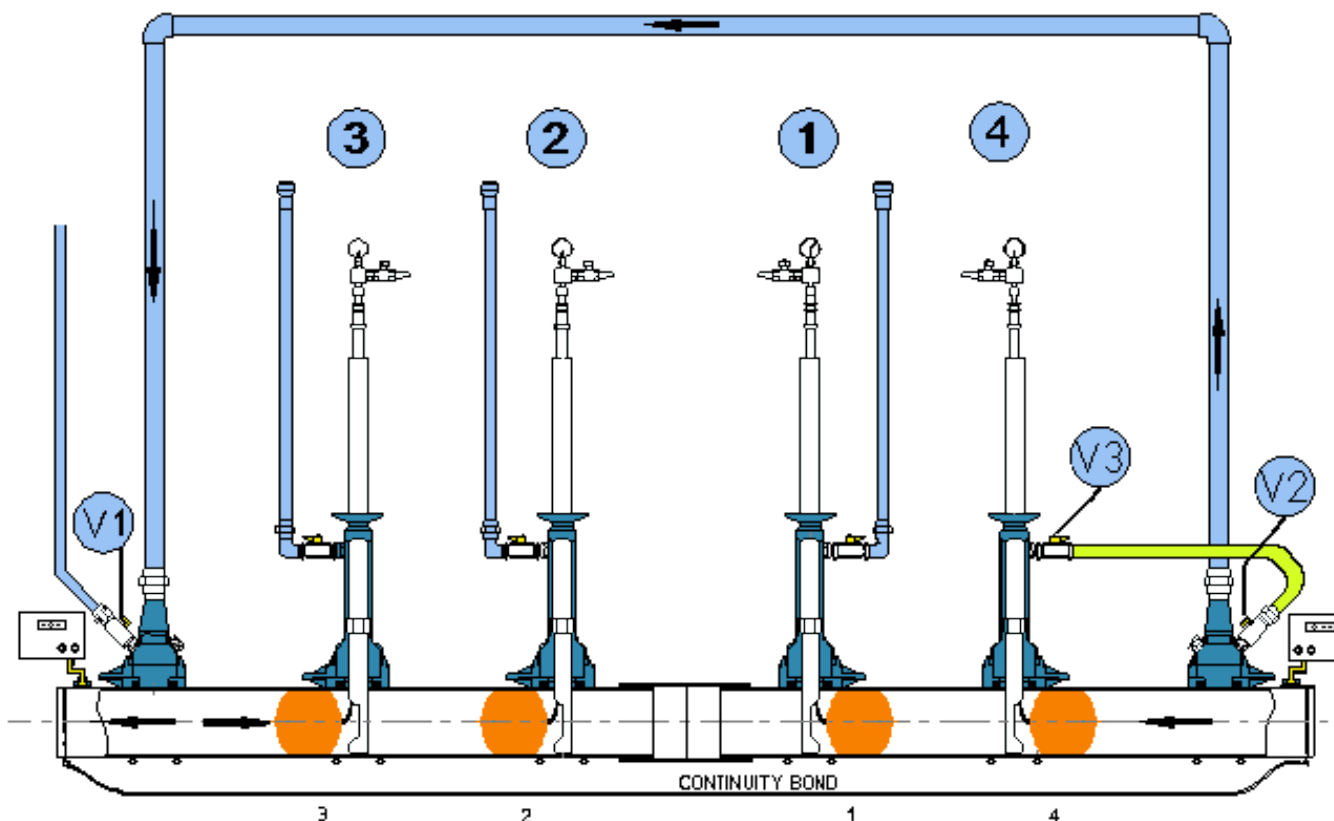

Figure 67- Recommission Main (Using a Purging Rider)
4. A suitably sized rider, as stated in the written procedure, should be connected between the vent assembly on bag tube 4, see Figure 67 and connected to the upstream bypass vent valve.
6. The vents on bag 1 and 2 should be closed and bag 2 deflated, followed by bag 1. Figure 67